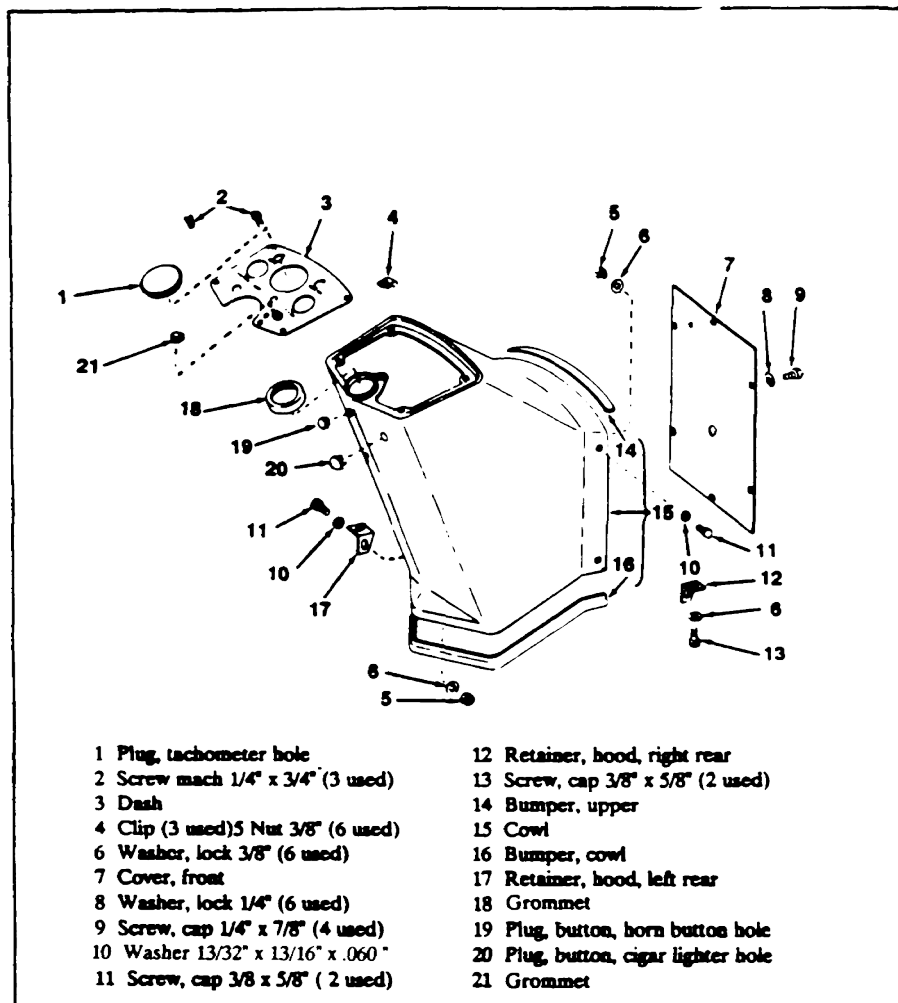
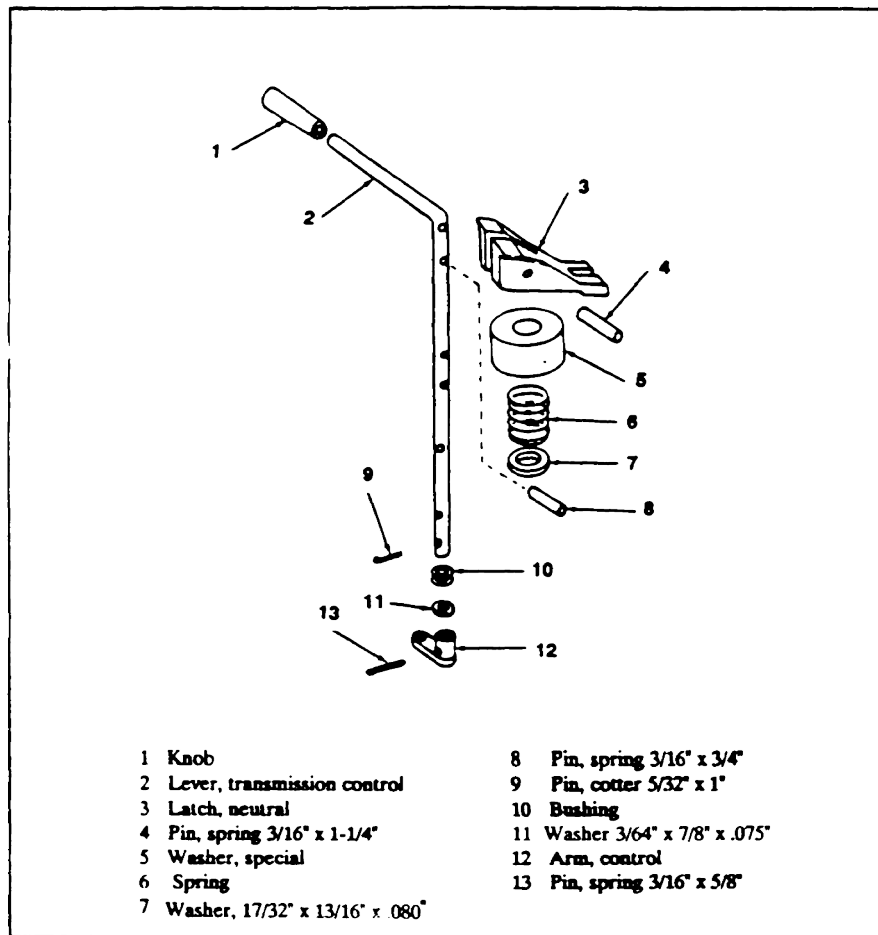

FIGURE 64. COWL AND DASH
FIGURE 65. REVERSER CONTROL LEVER
Step 3. Remove the cowl cover. First, remove the three screws securing the dash panel to the cowl cover (Figure 64). Turn the dash panel sideways and slide it inside the cover. The cowl cover can now slide up over the dash panel, and you do not have to remove the wires attached to the gages mounted in the dash cover. After positioning the dash inside the cowl cover, remove the four bolts securing the rear of the cowl cover to the cowl support (Figure 64).
Remove the reverser lever. Slide the cover up against the bend in the reverser lever and block it. Remove the spring roll pin so the reverser lever can be raised and removed with the cowl cover (Figure 65).
Step 2. Install the steering column on the steering control valve. Align the holes in the base of the steering column with those on the top of the steering control valve (Figure 66). Install and tighten the bolts (Figure 65). Then tighten the U-bolt and connect the battery cables.
Install the spring roll pin to secure the reverser lever (Figure 65). Lower the cowl cover onto the cowl support ensuring it fits into the cowl bumper (Figure 64), then install and tighten the bolts.
Step 5. Lift the dash panel back through the cowl cover. Check to ensure all wires are connected, then place the dash panel into position. Install and tighten the three screws (Figure 64).